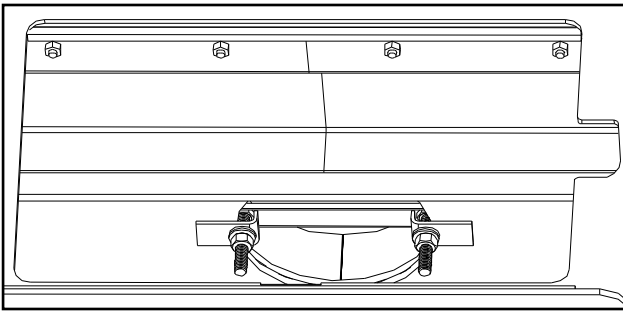
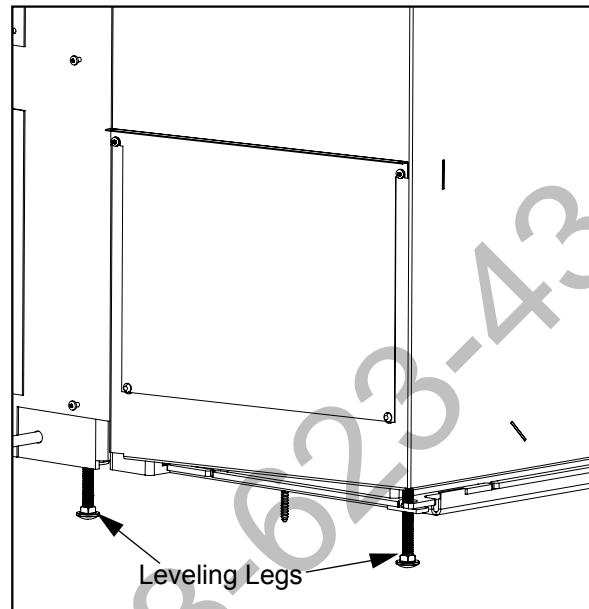

Figure 14: Removable flue collar in place.
Figure 15: Leveling legs.
- f)** Place the Collar Puller, over the two bolts of the Flue Collar and pull it into place (see Figure 14). Ensure that the bolts are to the left and right of the hole. If they are not, the front secondary air tube will need to be removed in order to install or remove the C-Cast Ceramic Baffles.
- h)** Re-install C-Cast Ceramic Baffles and the rear two (2) secondary air tube (see C-CAST CERAMIC BAFFLE INSTALLATION).
3. There are four (4) leveling legs (shown in Figure 15), two (2) on each side, one at the back and one at the front of the unit. Adjust the legs using a $\frac{3}{8}$ " wrench to ensure the unit is stable.